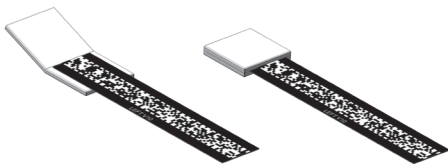

Figure 26: Code tape end cover
3. Cut off the excess code tape. Use a tinsnip which can cut a minimum of 0.7 mm of stainless steel. Attach the provided code tape end cover to the end of the code tape to prevent potential injury (Figure 26).
4. Cover the end piece with the second provided code tape end cover in order to avoid injury on the sharp edge (Figure 26).